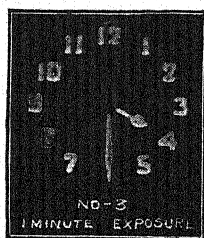

FIG. 350. — Hands of a watch photographed by their radium coating.
watches, and the sights of guns that are to be used for night firing. (See Fig. 350.) (4) Radium is *active chemically*; it decomposes water, changes oxygen to ozone, and imparts a purple color to glass. It resembles the metals of the calcium family in its chemical behavior.
(5) The *physiological effects* of radium are pronounced. It may destroy the germinating power of seeds, kill bacteria, or even kill small animals. Radium produces frightful burns that re-